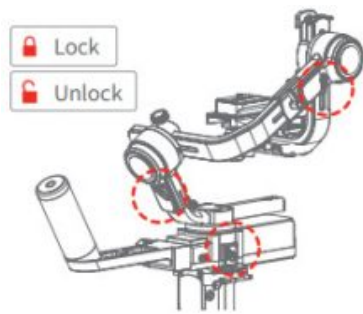

Figure 4-1
1. Please lock the gimbal at the balanced lock status(as Figure 4-1), install the camera on the quick release plate, and unlock the safety lock with the fixed plate safety lock.